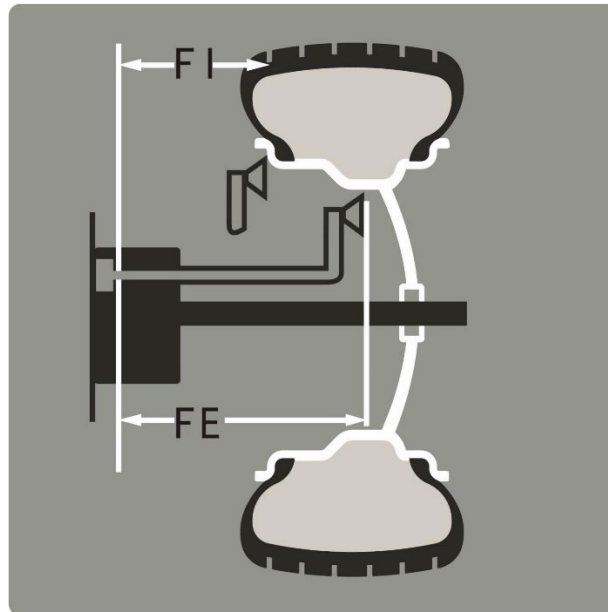

fig.6
- Entering "a1 and d1" values: Pull out the gauge and place it on the first position FI (see fig.6) for approx. 4 seconds, a1 and d1 values are automatically recorded and shown on the display.
- Enter "a2 and d2" values: Pull out the gauge and place it on the second position FE (see fig.6) for approx. 4 seconds, a2 and d2 values are automatically recorded and shown on the display.